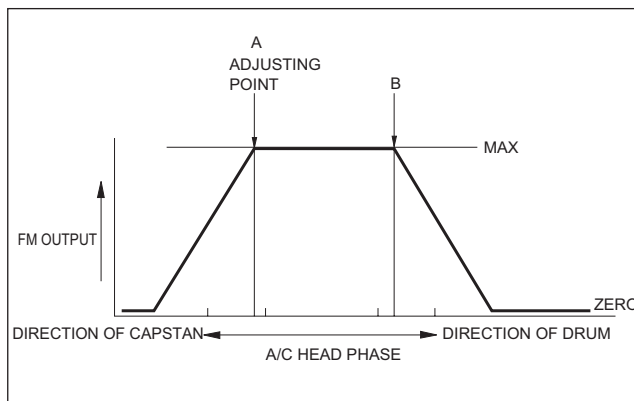

Fig.4-3-10
- (1) Connect the JIG CONNECTOR CABLE to CN25 on the MAIN BOARD ASSEMBLY.
- (2) Playback the SP stairstep signal of the alignment tape and observe signal at V_TP_FM with external trigger from V_FF on the JIG CONNECTOR CABLE.
- (3) Operate the tracking button in the center and manual tracking mode by pressing the tracking (+) and (-) buttons and confirm that the FM output level is maximum at the center position as shown in Fig. 4-3-10.
- (4) If necessary, slightly loosen the setscrews **[D]** and **[E]** and insert the Tweezers into the notch and guide hole to move the A/C HEAD fully in the direction of the capstan to the extent.
- (5) Gradually move the A/C HEAD toward the drum to find the position where the FM output level maximum for the first time (A' - B' in Fig. 4-3-10).
- (6) Fine adjust the phase of the A/C HEAD and tighten the screws **[D]** and **[E]** at the point A.